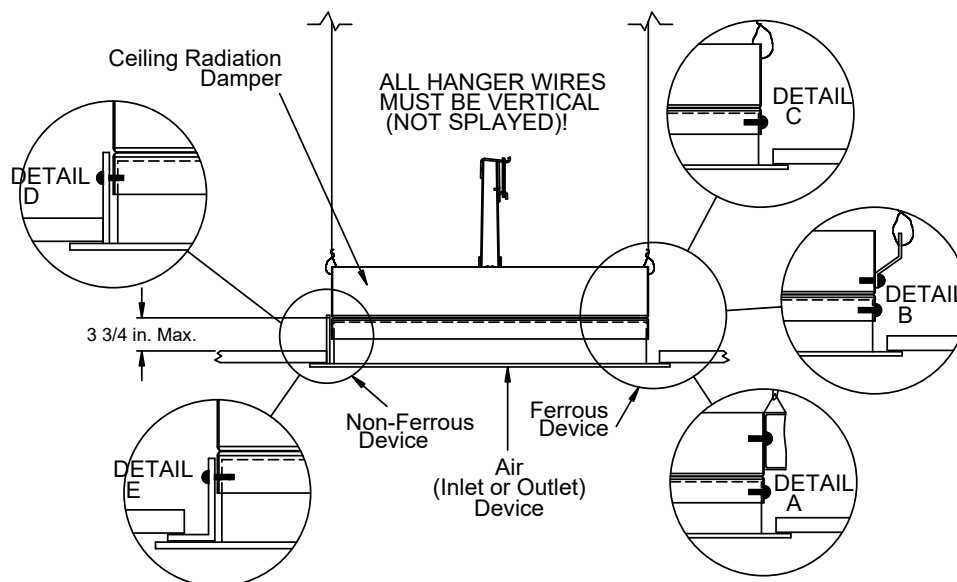

Figure 9
1. Ceiling radiation damper may be connected directly to the air device neck and supported by steel channel (see **Detail A, Figure 9**).
2. Ceiling radiation damper may be connected directly to the air device neck and supported by hanger straps (see **Detail B, Figure 9**).
3. Ceiling radiation damper may be connected directly to the air device neck and supported by direct suspension with wires looped through the holes in the damper frame before tying (see **Detail C, Figure 9**).
1. A steel extension should extend from the ceiling radiation damper to the bottom surface of the ceiling membrane (see General Information, Ceiling Penetrations) should be equal to the outside of the steel extension (see **Detail D, Figure 9**).
2. A steel angle should be attached to the bottom of the ceiling radiation damper and span the gap from the ceiling radiation damper to the bottom of the ceiling membrane. The steel angle should overlap the ceiling membrane (see **Detail E, Figure 9**).
Models CRD-1, CRD-1LP, CRD-2, and CRD-60 may be installed as shown in Figure 9 (Model CRD-1 & CRD-1LP illustrated).